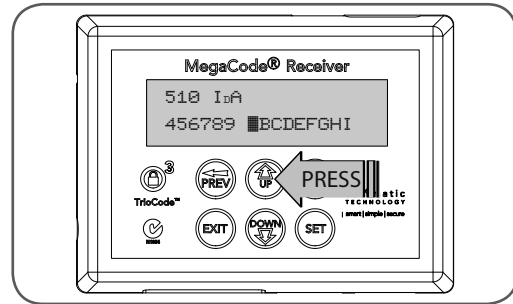

fig 20
- ii. Use UP and DOWN to change the displayed value. When the correct setting has been made repeat step i (above) to select the next field to edit. The example (Fig. 20) shows editing the function of transmitter number 510 assigned to the Output 1. When a change is made, the bottom line of the display will show a list of available characters to choose from with the current value indicated at the cursor position (Fig. 20). When the correct character has been selected, repeat STEP 2 to select the next field to edit.